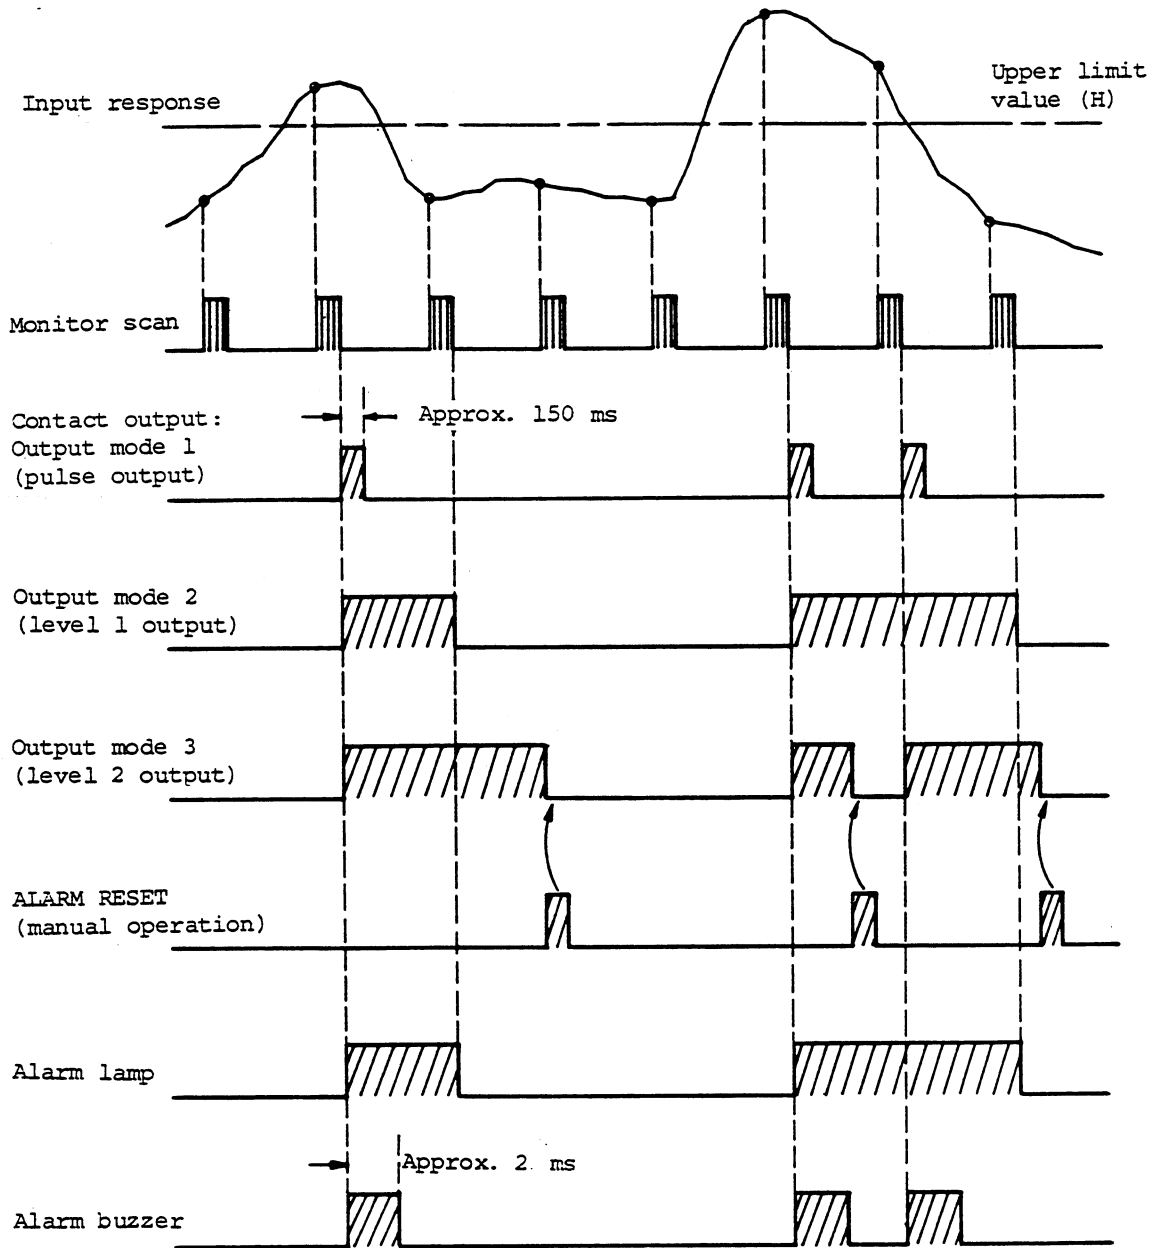

Fig. 7-5 Alarm sequence for monitor scan
As shown in Figure 7-5, if an upper limit value (H) is exceeded, three types of output are available according to the settings of the OUTPUT switch.